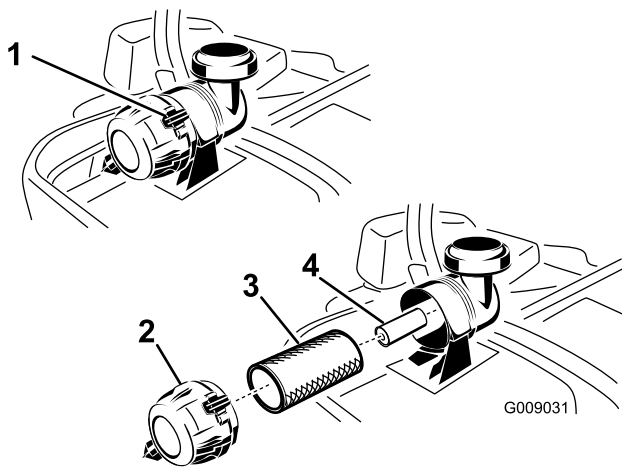

Figure 50
3. Push down to release the retaining clamps on the air cleaner and pull the air cleaner cover off of the air cleaner body (Figure 50).
5. Gently slide the primary filter out of the air cleaner body (Figure 50). Avoid knocking the filter into the side of the body.
1. Do not clean the paper filter, replace it (Figure 50).
2. If the secondary filter is being replaced, carefully slide it into the filter body (Figure 50).
3. Carefully slide the primary filter over the secondary filter (Figure 50). Ensure that it is fully seated by pushing on the outer rim of the filter while installing it.
4. Install the air cleaner cover with the breather cap down and rotate so the retaining clamps lock the cover in place (Figure 50).